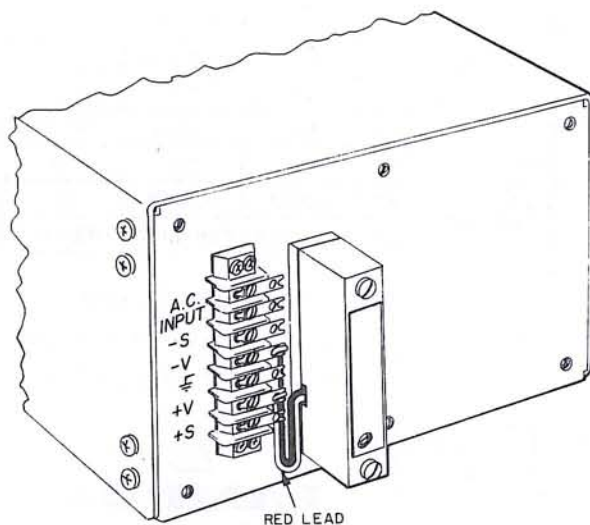

Figure 3. Overvoltage Protector, Typical Installation
3. Align the two 6-32 captive screws located on the protector†, with the two existing pre-tapped 6-32 holes in the power supply†† and firmly tighten screws to secure the protector in position. See figure 3.